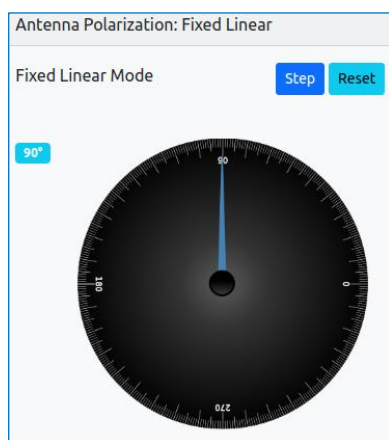

Figure 36: Antenna Polarization, Fixed Linear Mode
- Fixed Linear – Step and Reset, as shown in Figure 36